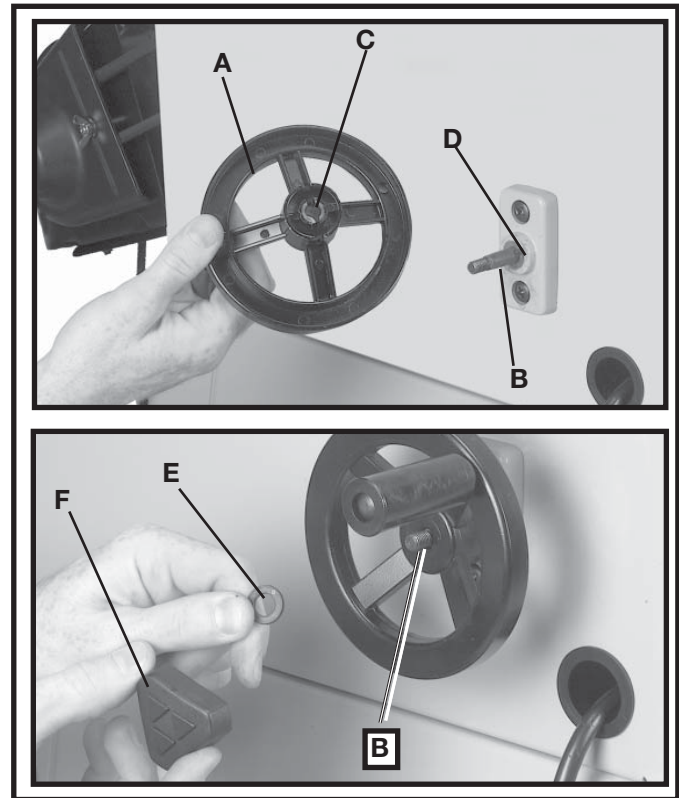

Fig. 29
1. Place blade tilting handwheel (A) Fig. 29, onto shaft (B). Make certain slot (C) in handwheel is engaged with roll pin (D) on the shaft.
2. Place a 10mm Nylon Flat Washer (E) onto shaft (B) and then thread locking knob (F), onto the shaft.